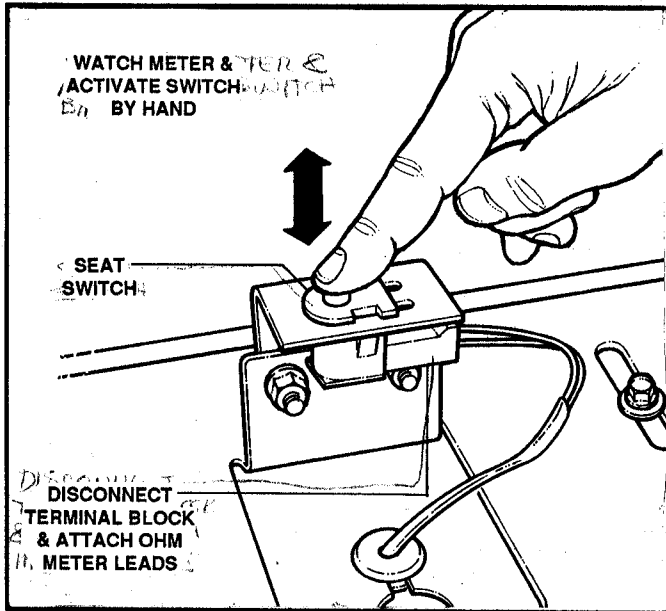

FIGURE 6.9
4. Activate switch by hand and check for continuity. See Figure 6.9.